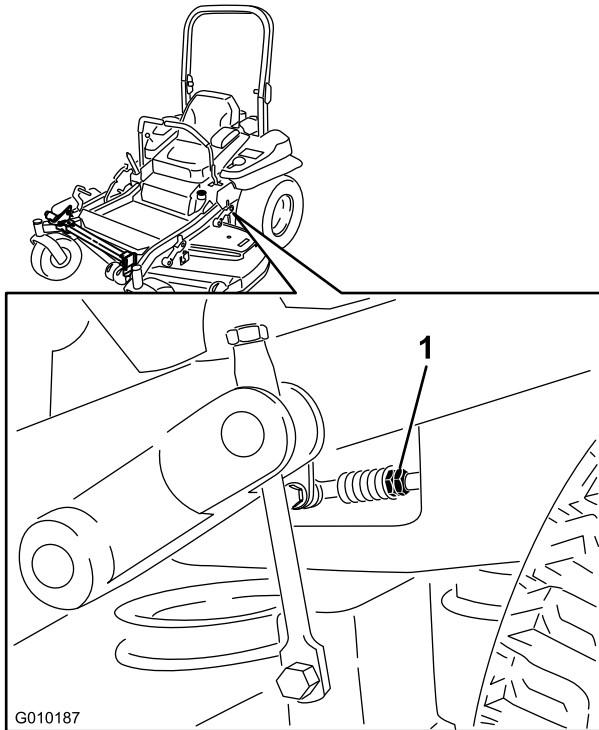

Figure 78
8. Adjust the length of the pump-control rod by rotating the double nuts on the rod in the appropriate direction until the wheels slightly creep in reverse (Figure 78).